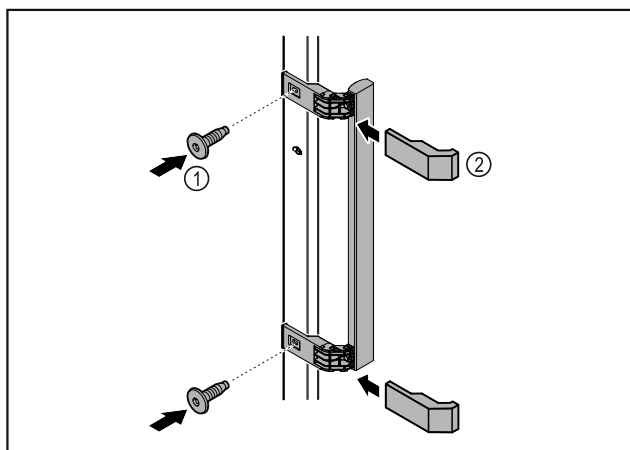

Fig. 6
- Attach handle from accessory kit to the door using supplied screws Fig. 6 (1).
- Put on cover Fig. 6 (2).